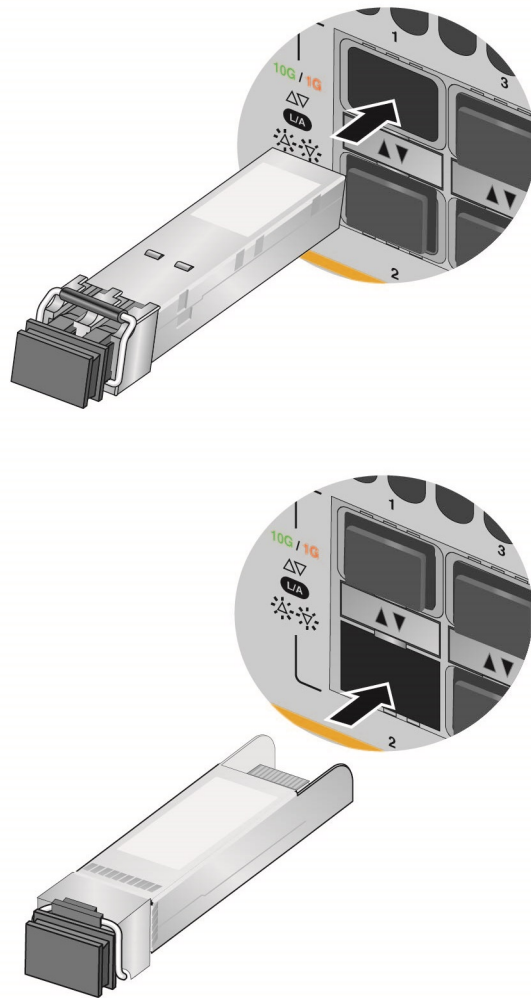

Figure 65. Installing an SFP Transceiver
4. If you are installing the transceiver in a top slot, position the transceiver with the Allied Telesis label facing up. If you are installing the transceiver in a bottom slot, position the transceiver with the label facing down. Refer to Figure 65 on page 111.